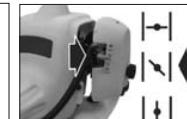

Fig. 10B
2. Place choke in HALF CHOKE "||" position (Fig. 10B).